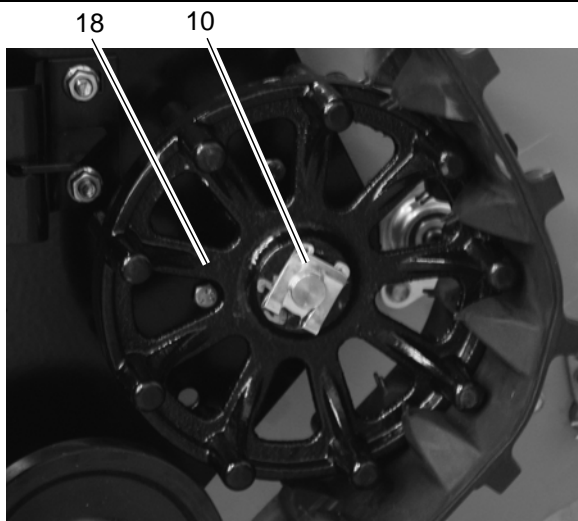

Figure 14
19. Apply anti-seize compound or waterproof grease to track drive axle ends (item 3).
20. Install cast drive wheels (item 18) onto shaft ends and secure with snap clips (item 10). See Figure 14.